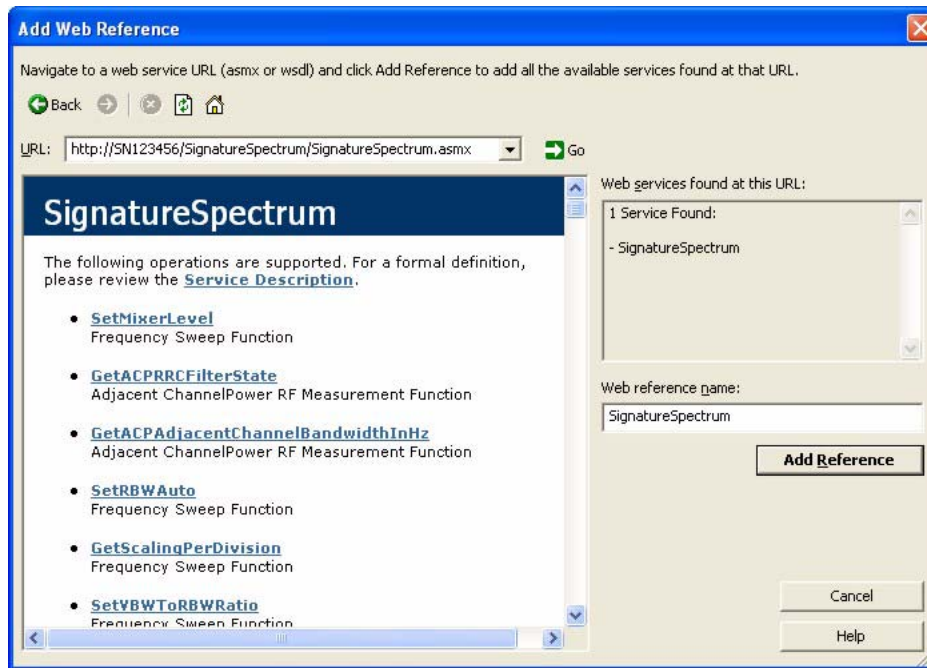

Figure 1-21. Add Web Reference Dialog
- Step 2.** On the resulting pop-up dialog, click on *Add Web Reference* to open the Add Web Reference dialog shown in Figure 1-21 below: